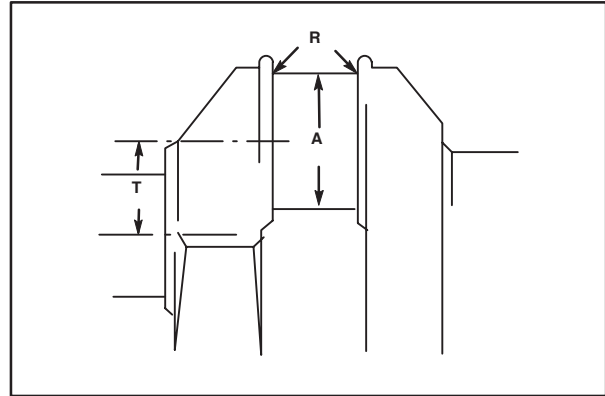

Fig. 2
Crankshaft crankpin may be re-ground for **0.020"** undersize connecting rods when available. See IFL for part number. Accurately measure and grind the crankpin diameter (A), throw (T) and fillet radius (R), **Fig. 2**. Discard any crankshaft that is worn beyond reject specifications listed in Section 13.